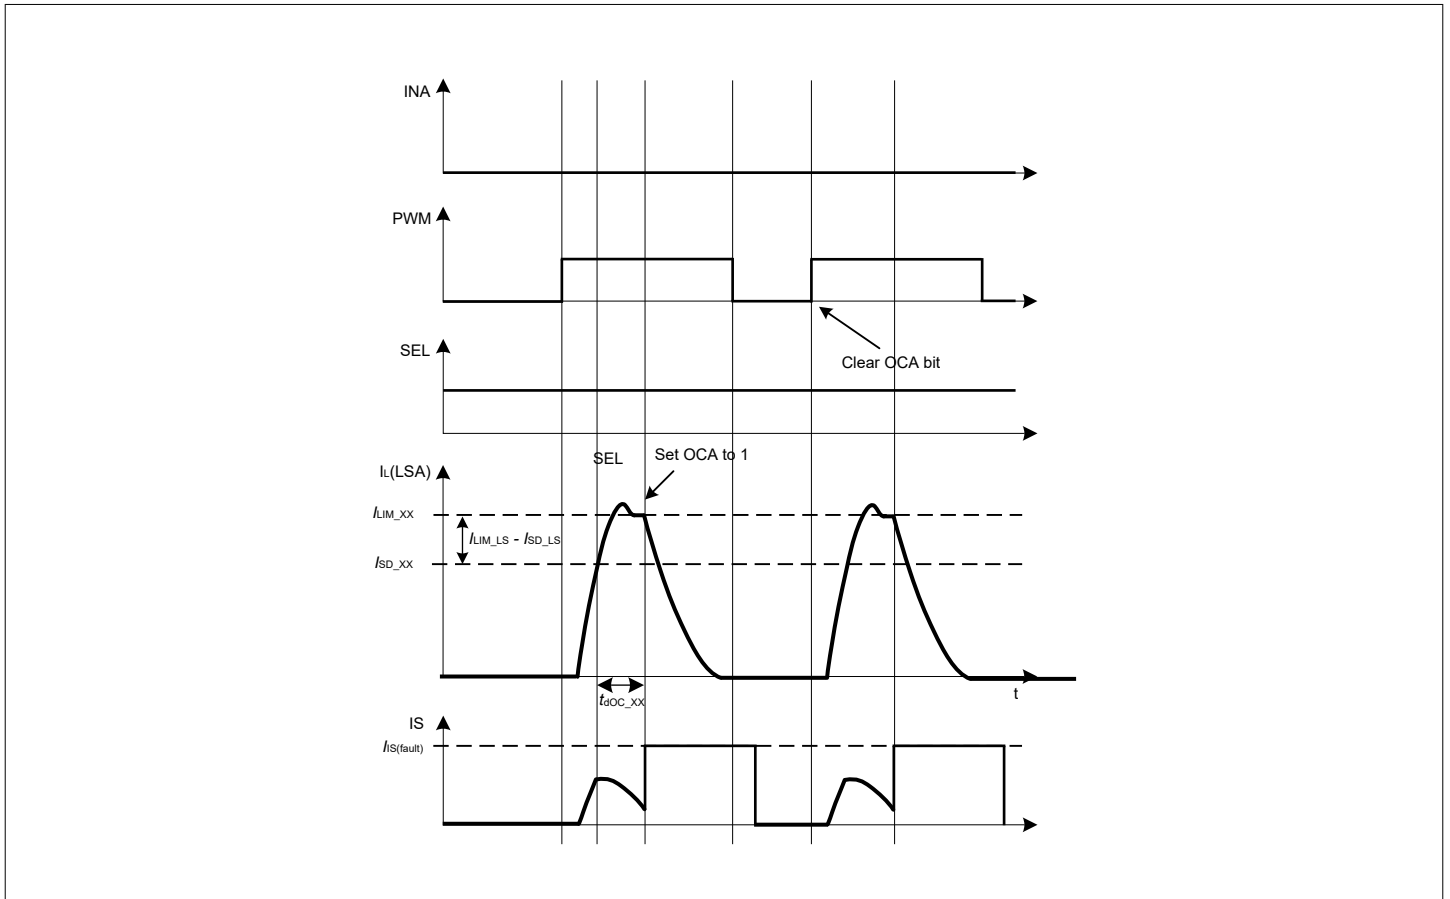

Figure 22 Recovery of short circuit and overcurrent protection by input bits
- Switch on the MOSFETs by input pulse (PWM, INA and INB) as shown in Figure 22
As shown in Figure 22 the recovery will be controlled by the input bits in the control byte. When the input bits to switch on the MOSFET is sent to the device, it behaves as follows: